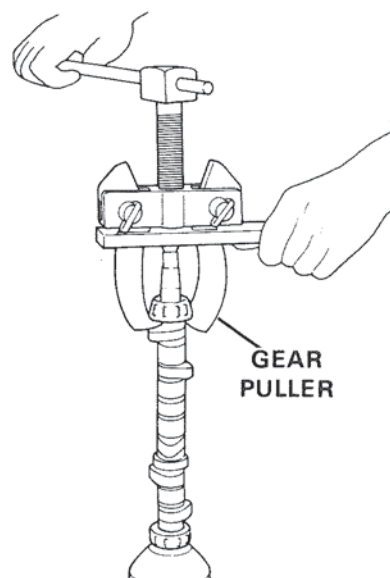

Figure 40. Pulling Bearings.
- A. Remove bearing and shim(s) using gear puller. Figure 40.